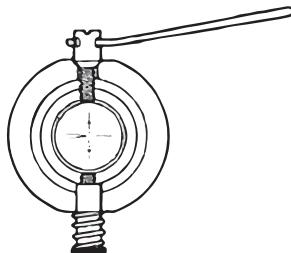

Figure 11
Take off the eyepiece cover (12). Turn the adjusting screw with the pin (Fig. 11) until the values $b2'$ and $b2$ are the same. Put on the eyepiece cover again.